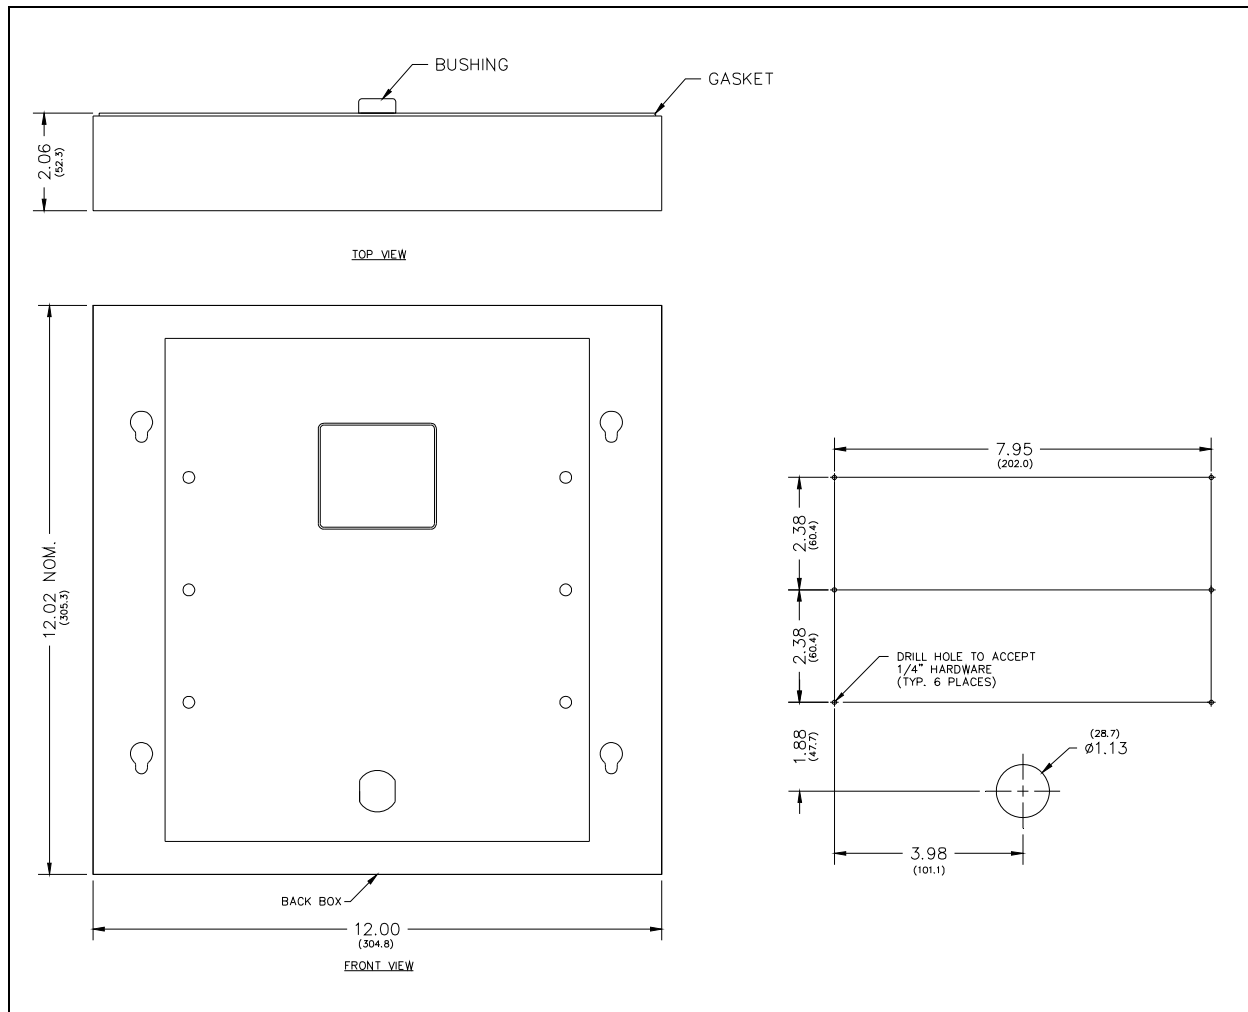

Figure 8. Mounting the Model 295-001W
3. Using the back box as a template, drill holes in the lower right and upper left corners of the mounting surface and secure the back box with screws. Drill the holes in the pattern shown in Figure 8.
4. Place the bushing around the field telephone line and power cable approximately 8 inches from the end of the cable. Snap the bushing closed and insert into the “D” hole in the back of the back box. See Figure 3 and Figure 8.